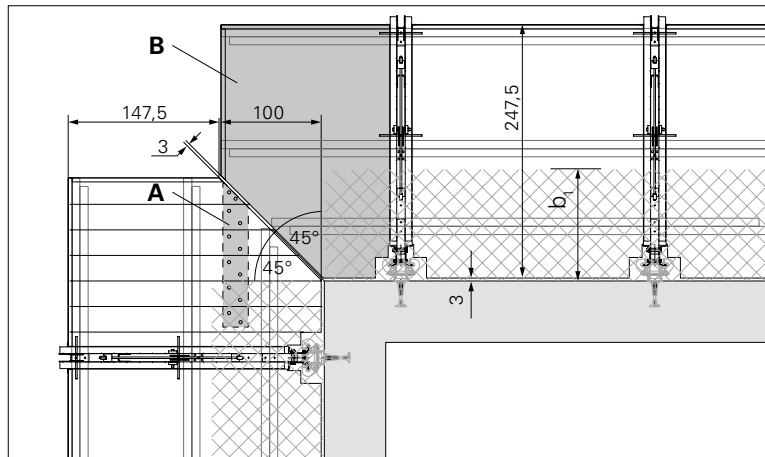

Fig. B3.01
Push girder up to the edge of the platform. Fix cantilevered planking to planks that are positioned laterally to the direction of the planking (A). Alternatively for the corner areas, mount laminated wood panel (B). Cover the gap between the mitred elements. (Fig. B3.01)